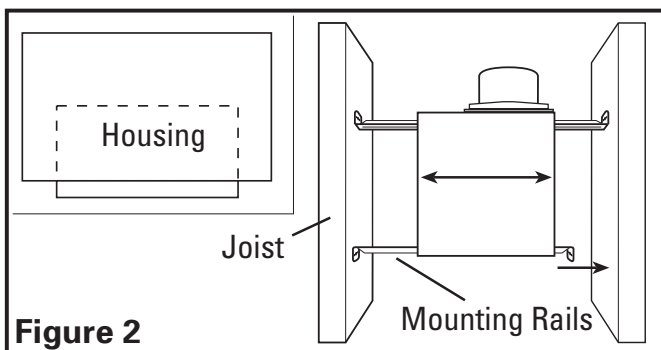
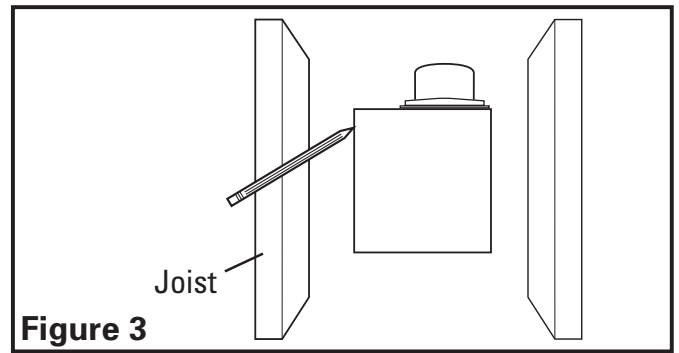

Figure 2
Figure 3
1. Install the rails on the housing and position the housing next to the joist. Line up housing so that it will be flush with the finished ceiling. Secure the ends of the rails with screws or nails (not included) to the joists and slide the housing into the final position (Figure 2).
1. Set housing in position between the joist and trace an outline onto the ceiling material (Figure 3). Set housing aside and cut opening, being careful not to cut or damage any electrical or other hidden utilities. Install the rails on the housing and position the housing in the previously cut hole so that it is flush with the finished ceiling. Secure the ends of the rails to the joists (Figure 2).